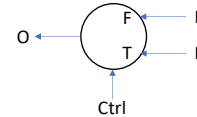

Figure 5: TF Node
- We define the *TF node* in Figure 5 to have 3 inputs ( $I_F$ ,  $I_T$ , **Ctrl**) and 1 output (**O**). When **Ctrl** is set to True, **O** takes  $I_T$ . When **Ctrl** is set to False, **O** takes  $I_F$ .